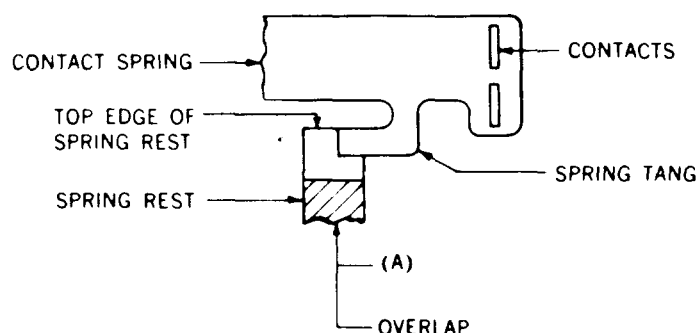

Fig. 4—Position of Spring Tang
2.09 Spring Tang Position - Fig. 4(A)
(b) The spring tang shall overlap the spring rest as shown in Fig. 4(A) and the spring tang may project one-third of its width above the top edge of the spring rest. Gauge by eye.